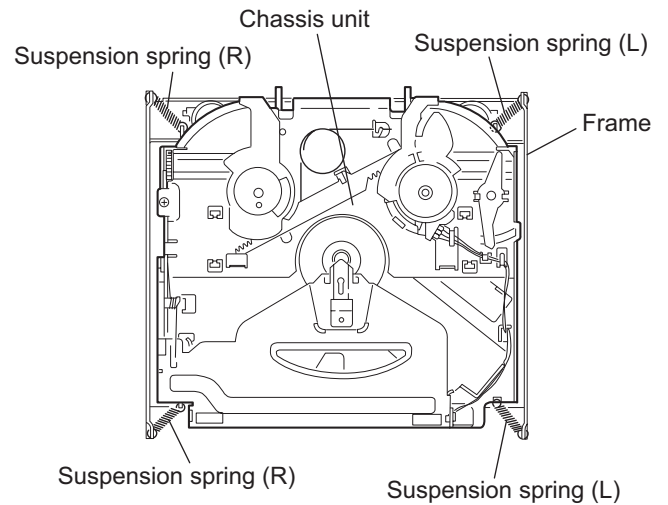

Fig.8
(See Fig.8)**
2.2.4 Removing the chassis unit (See Figs.8 and 9)